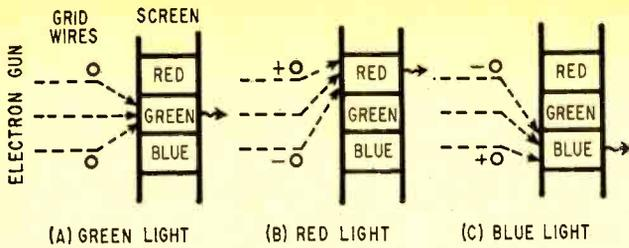

Fig. 5. Applying voltages to pairs of grid wires focuses the electron beam on one of the three phosphor screen stripes.
In Fig. 5 is a portion of the screen viewed from the top. Shown are three possible beam positions for producing primary colors. Consider, first, Fig. 5 (A). Green is being produced, as just described; the beam passes through the grid wires and strikes the green
phosphor. Now let's apply an electrical charge to the pair of grid wires. If the upper wire, shown in Fig. 5 (B) is impressed with a *positive* charge, it will attract the electron beam (which is negative) in the direction shown. A *negative* charge placed on the lower wire aids this direction by repelling electrons. Thus, the overall effect is to deflect the beam toward the red phosphor. The final example, Fig. 5 (C), simply reverses the charge on the grid wires and the beam now strikes the blue phosphor stripe. It should be apparent that by placing the proper electrical charges on the grid, the beam can be angled to select any of the three primary colors.